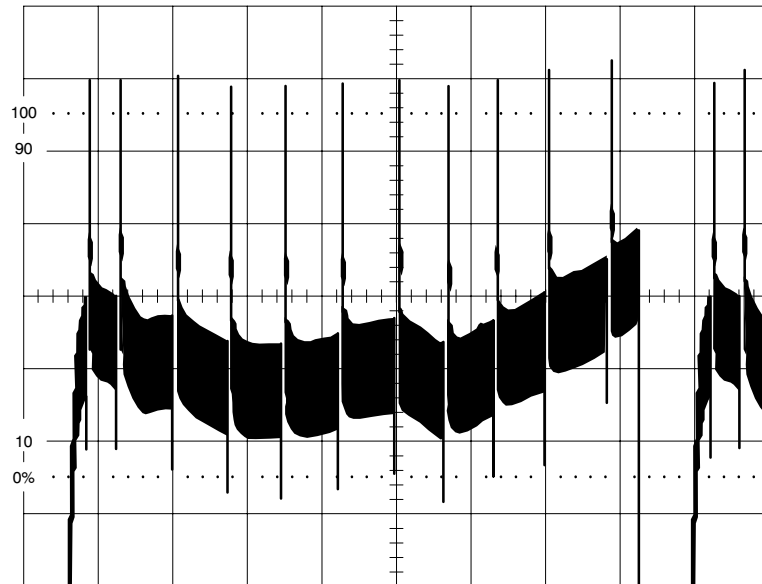

Figure 6-7: Display for adjusting flatness
13. Measure the sweep envelope. See Figure 6-7.
17. Adjust R210 and C165 for a display on the Test Oscilloscope that matches the sweep envelope to the previous waveform ± 4.3 mV from 2 MHz to 6 MHz (second marker to fourth marker) and ± 12.9 mV from 6 MHz to 10 MHz (fourth marker to sixth marker). See Figure 6-7.